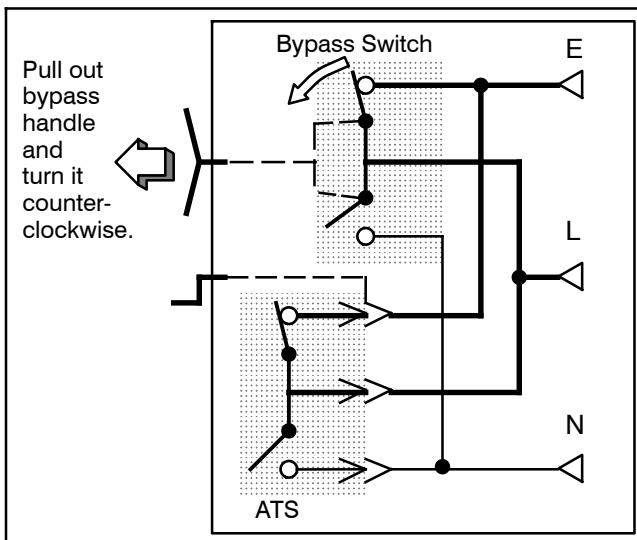

Figure 7-65 Opening Bypass to Emergency Contacts
- b. **If the load is connected to the EMERGENCY source**, pull out the bypass handle and then turn it counterclockwise until the bypass switch position indicator turns green, showing that the bypass contacts are open. See Figure 7-65. The Not in Auto light should be off.